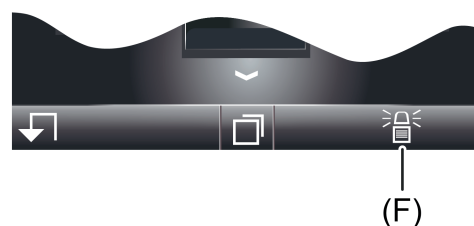

Figure 109: Symbol in the footer of the screen for displaying an alarm
In the case of an alarm, the symbol  (F) is displayed in the footer of the screen (figure 109). This symbol will also remain visible even if an alarm - e.g. by a switching device - was disabled and the system is in the status "Unarmed after alarm". This makes it possible for persons to easily recognise on the device that an alarm is or was present irrespective of the visible display page. By pressing the symbol in the footer, the on-screen display branches to the display page of the signalling system where the event memory can be viewed and the alarm acknowledged. The symbol in the footer goes out after successful acknowledgement of an alarm.